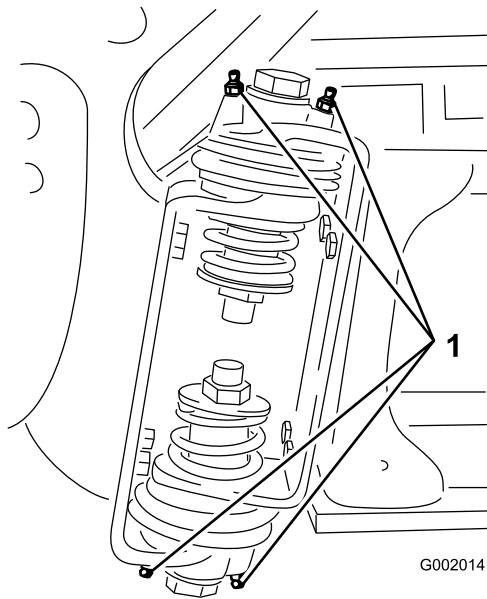

Figure 74
2. Pump grease into the bearing or bushing at each fitting (Figure 74).